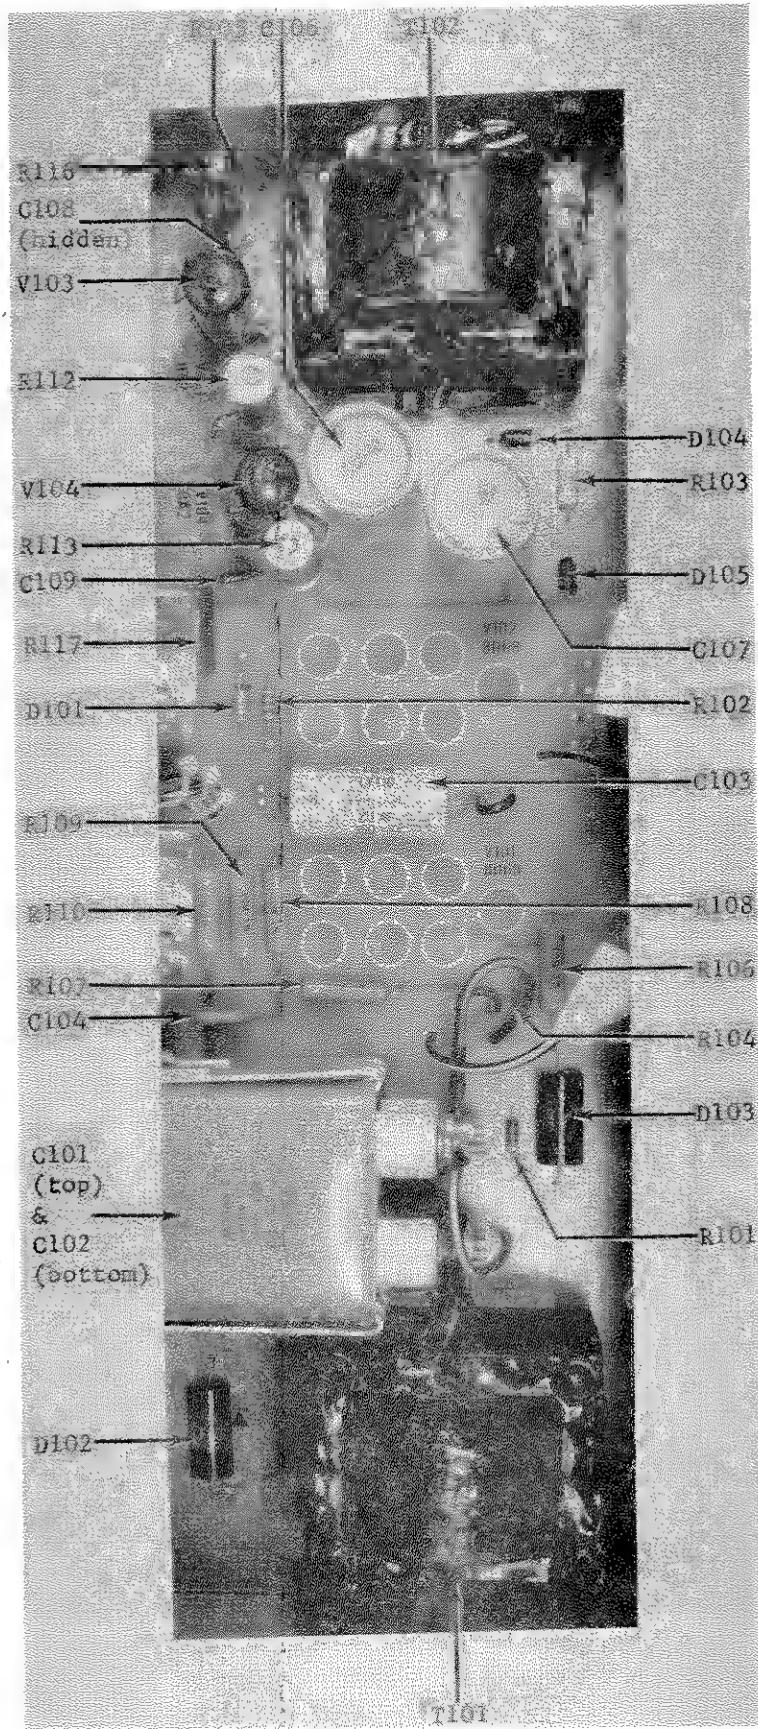

FIGURE 15. Component Locations on Rear Section of PC-131. For other components see Figures 16 & 17.
b. Removing tubes V103 and V104 (Figure 15) from their sockets unloads the low voltage winding of the low voltage transformer.